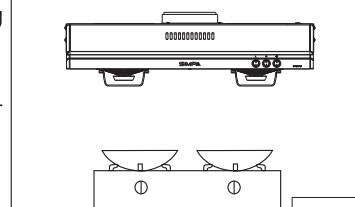

Fig 2-2
2. The appliance shall be installed on frontal upper side of cooking area (Fig2-2).